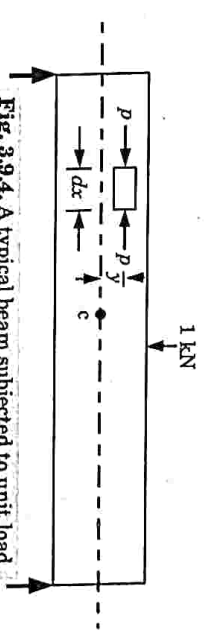

Fig. 3.9.4. A typical beam subjected to unit load.
4. Let  $m$  be the moment at the section where the element is considered, due to unit load acting at  $C$  as shown in Fig. 3.9.4.